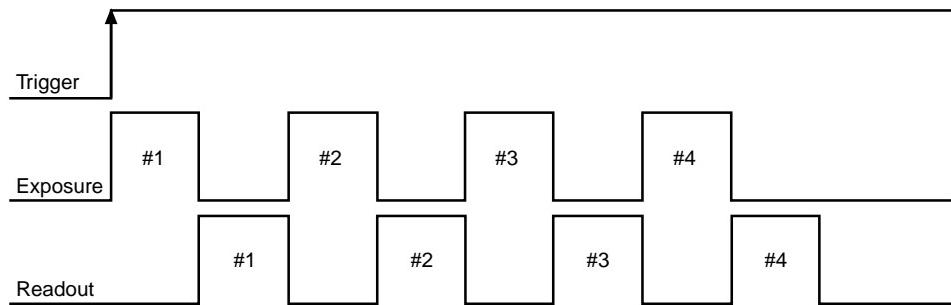

Figure 4. Trigger-First Mode Timing Diagram
- Trigger-first mode** In this mode, the camera requires only one trigger to acquire a sequence of frames. Each frame is exposed for a length of time entered into the software and read out. Once the trigger is received, the camera is inhibited from taking any further triggers until the entire sequence is completed (see Figure 4).